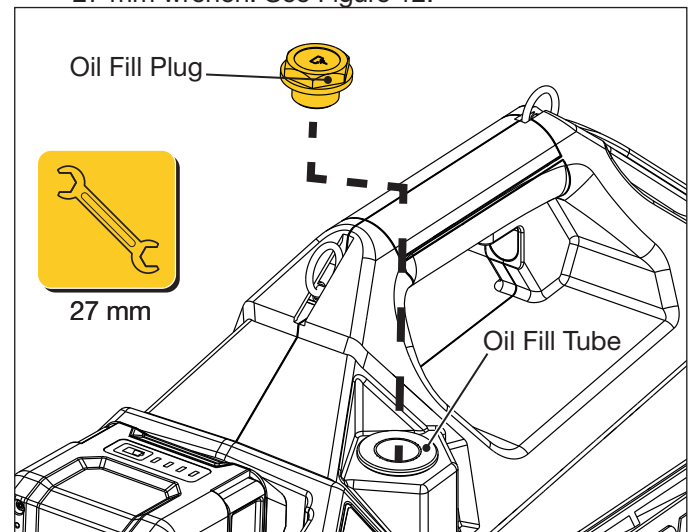

Figure 12: Oil Fill Location
2. With the power switch in the ON (I) position, press and hold the DUMP button (⊙) or (⊗) to relieve any residual hydraulic pressure in the system.
3. Turn off the pump power switch (O).
5. Remove the oil fill plug from the fill opening. Use a 27 mm wrench. See Figure 12.
2. With the power switch in the ON (I) position, press and hold the DUMP button  or  to relieve any residual hydraulic pressure in the system.
3. Place the pump on a level work surface. Be sure the pump power switch is in the OFF (O) position.
4. Remove the oil fill plug from the fill opening. Use a 27 mm wrench. See Figure 12.